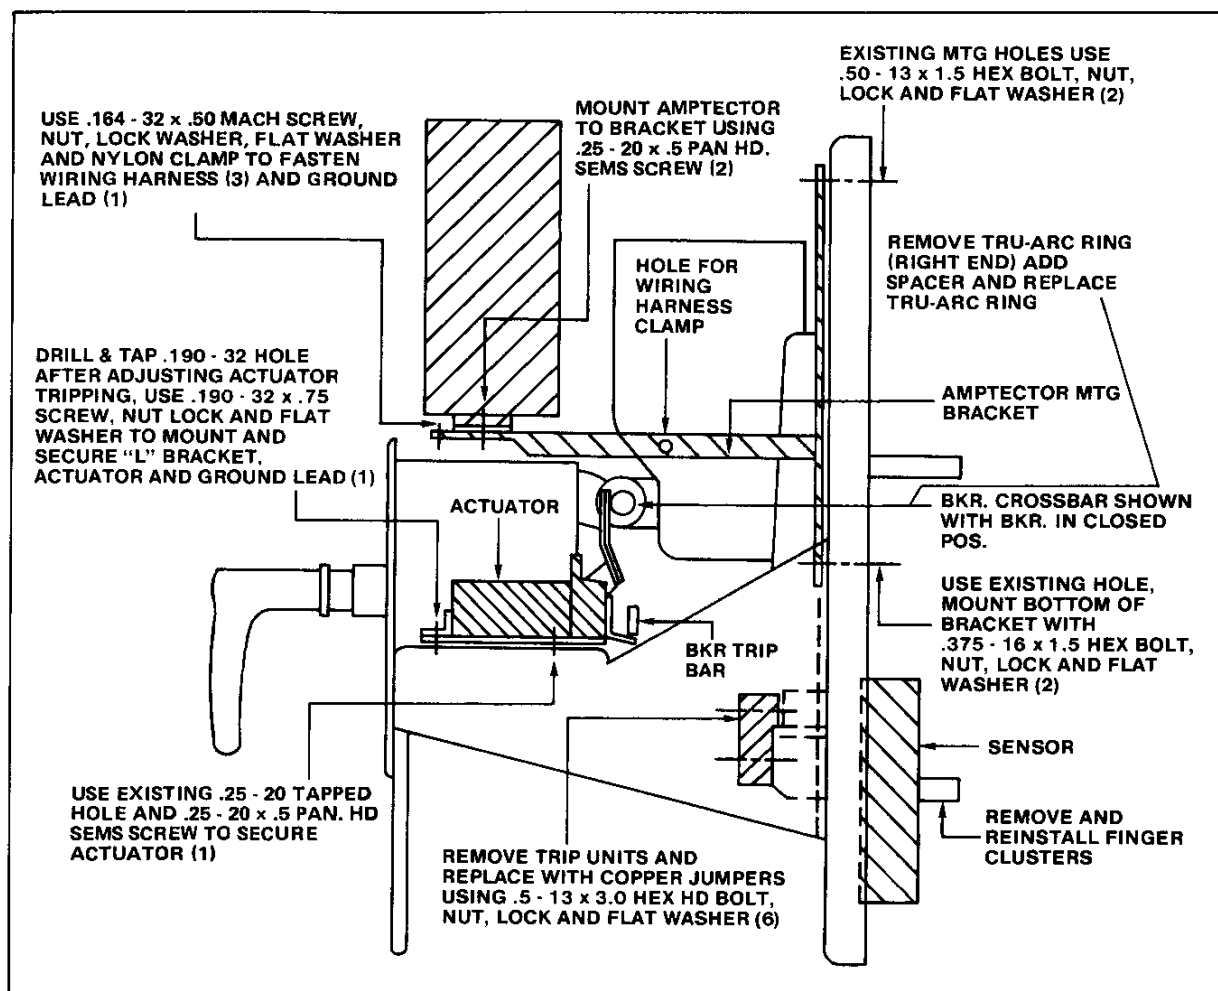

Fig. 22 Right Side View of DB-25
- B. Familiarize yourself with right hand side view of breaker, see Fig. 22.